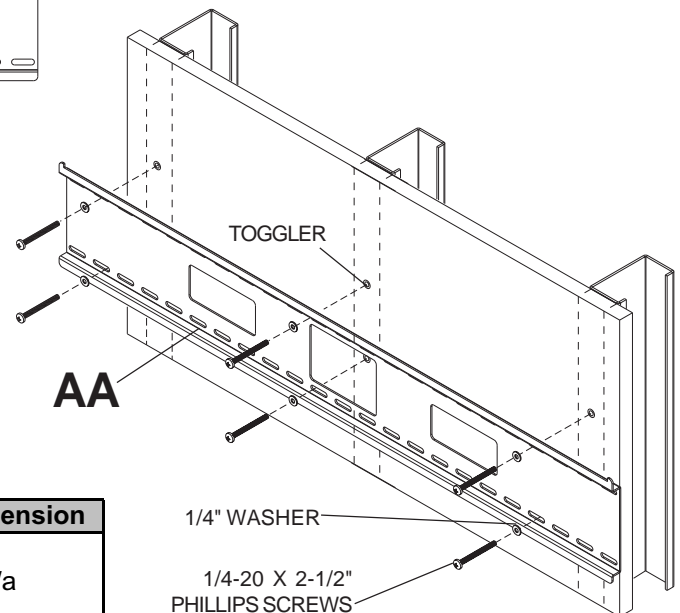

fig. 1.2
**Refer to instruction sheet included with Peerless accessory kit ACC 615 for metal studs to install togglers.** Loosely fasten mount assembly (AA) to wall using four 1/4-20 x 2-1/2" screws as shown in figure 1.2.